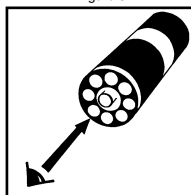

Figure 4
- a. Place the ampoule, flat end downward into the center of the low range comparator. Direct the top of the comparator up toward a source of light while viewing from the bottom. Rotate the comparator until the color standard below the ampoule shows the closest match (fig 4).